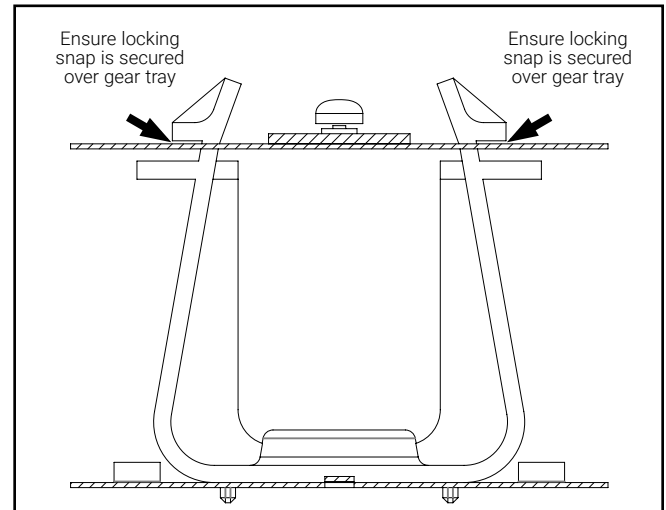

Figure 9.
- Place gear tray back into channel. Secure gear tray by pressing firmly on gear tray next to the locking snap cutouts. Avoid touching the LED's. You will hear an audible click when done correctly. To verify gear tray is installed correctly, locking snap needs to be above gear tray (Figure 9). Make sure all wires are inside the channel and below the gear tray before securing tray to channel.